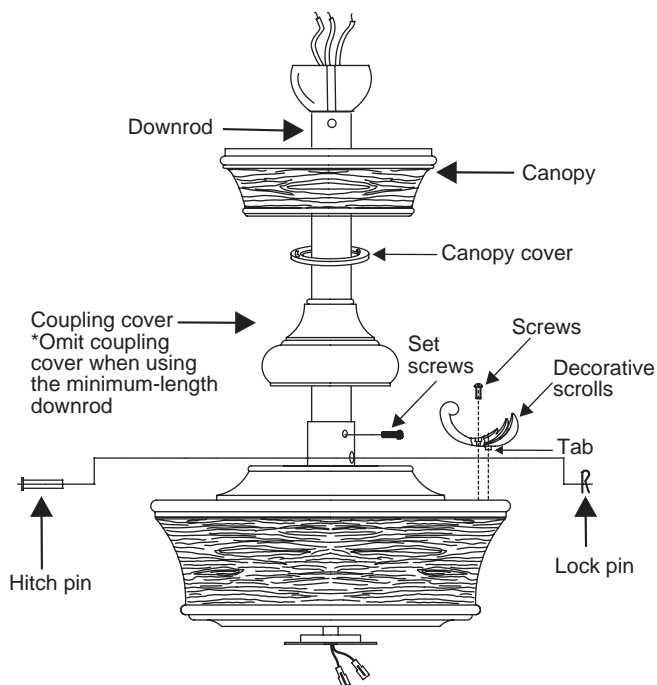

Figure 7
Step 6. Route wires exiting from the top of the fan motor through the coupling cover, canopy cover, canopy and then through the ball / downrod. (Fig. 7)
Step 7. Align the holes at the bottom of the downrod with the holes in the collar on top of the motor housing (Fig.7). Carefully insert the hitch pin through the holes in the collar and downrod. Be careful not to jam the pin against the wiring inside the downrod. Insert the locking pin through the hole near the end of the hitch pin until it snaps into its locked position, as noted in the circle inset of Fig. 7.
Step 8. Tighten two set screws on top of the fan motor firmly. (Fig. 7)
Step 9. Secure the decorative scrolls to the top of motor housing with the screws. (Fig. 7)